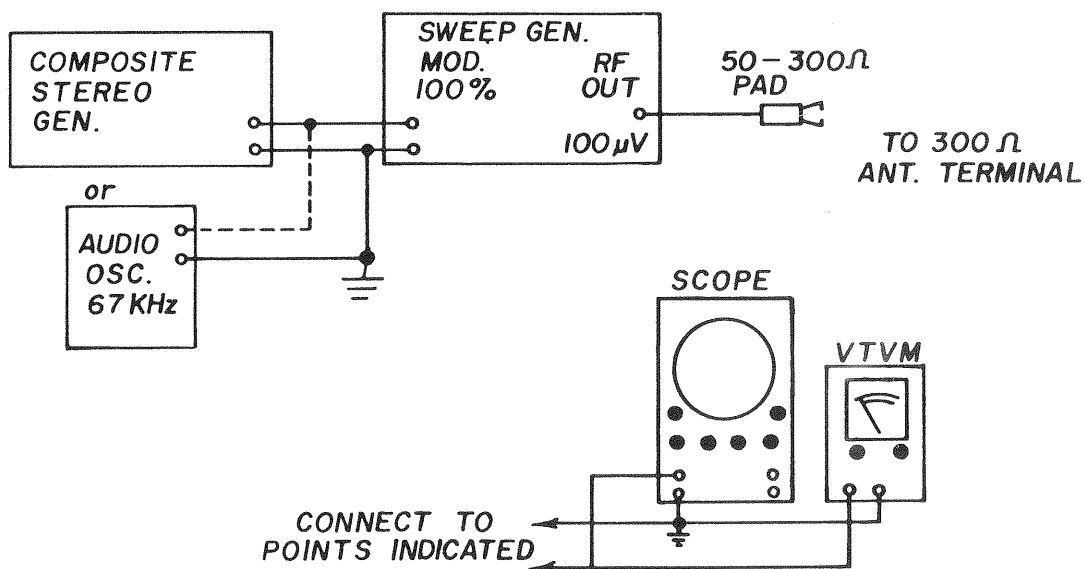

Figure 5
1. Set up the equipment as shown below (Figure 5) with the composite stereo generator set for pilot only. Before attempting multiplex alignment be certain that the FM I.F.'s have been properly aligned.